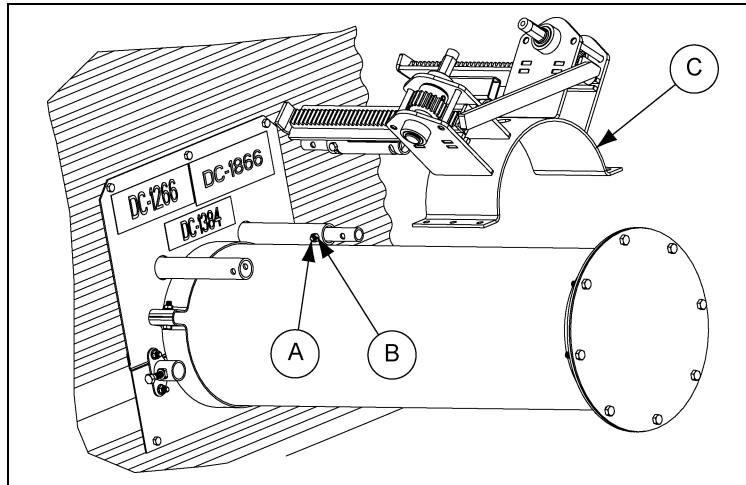

Figure 4S
2. Pin the inside intermediate control rod to the centerwell control rod, by using a 5/16" x 1-3/4" hex bolt (A) and hex nut through the aligned hole. (See Figure 4S.)